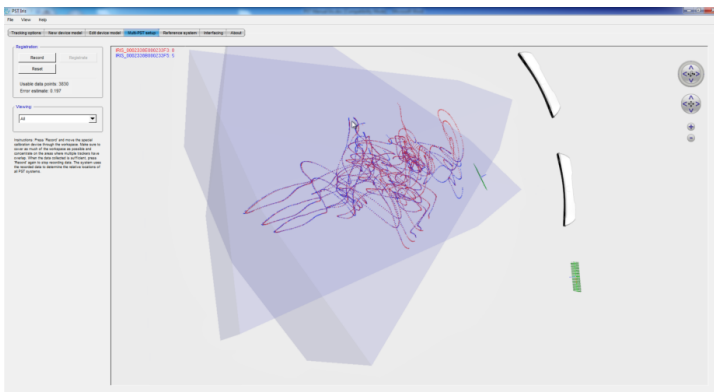

Figure 7.17: Registration results
4. Press the “Registrate” button to execute the registration procedure. This can take from a few seconds to a couple of minutes, depending on the number of the points collected during the registration procedure. Upon completion, the registration results are shown in the live view. The recorded point trajectories should be placed on top of each other (as illustrated in Figure 7.17), where the error estimate indicates the quality of